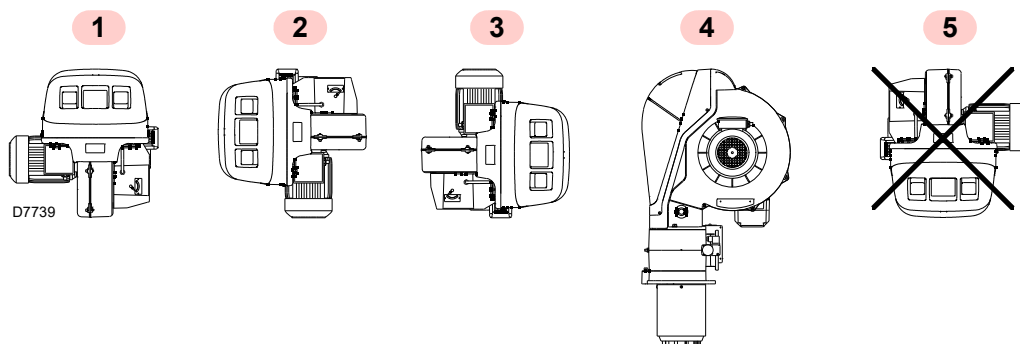

Fig. 9
- The burner is designed to operate only in positions **1**, **2**, **3** and **4** (Fig. 9).